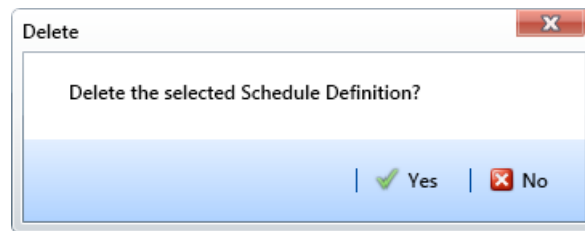

Figure 8-13. Delete Message
- 3 If you want to delete the addition, click  **Delete**, then click  **Yes** when the *Delete* message displays (Figure 8-13).